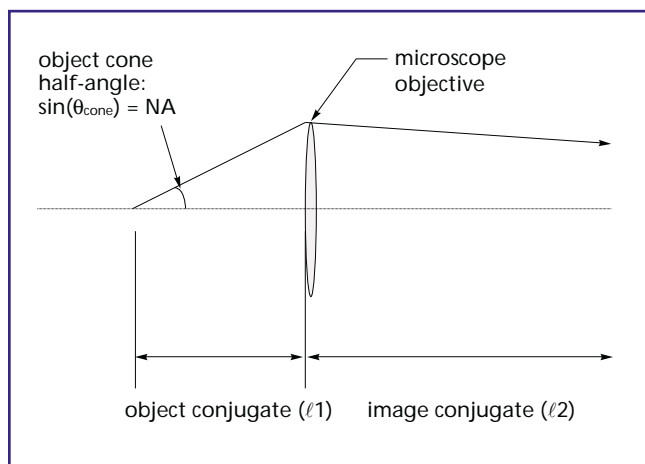

Figure 3. **Numerical aperture (NA)**
For lenses designed to work at magnifications greater than 1 (for example, microscope objectives), the cone angle on the object side is used as the performance measure. By convention, this angle is given as a numerical aperture (NA). The NA (figure 3) is given by: